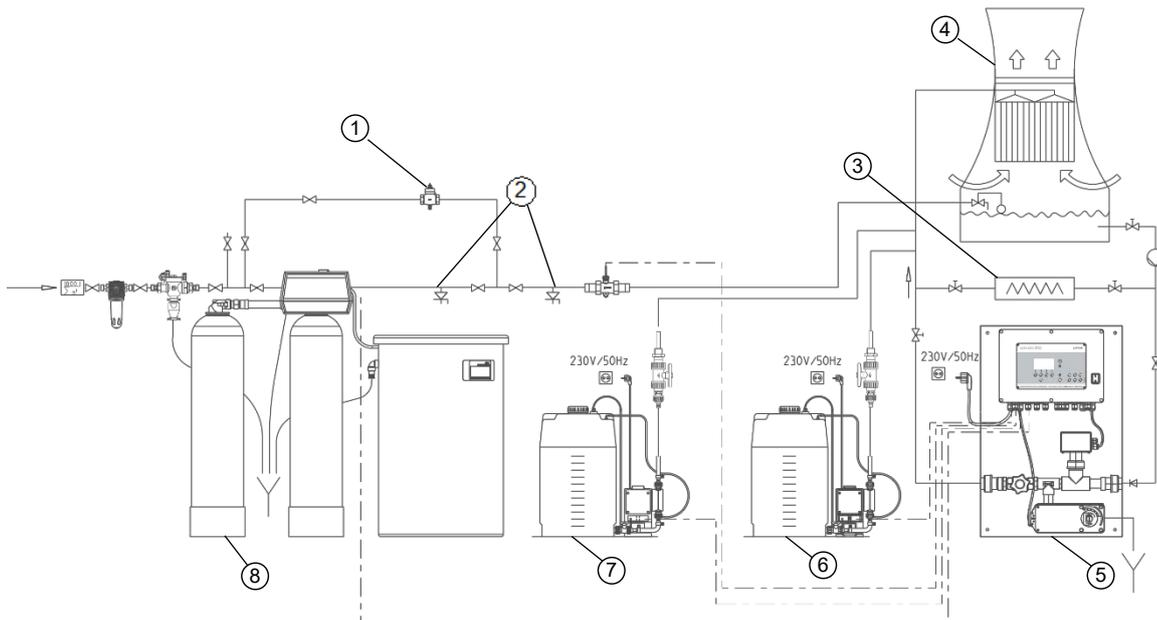

Fig. D-2: Mounting and installation instructions for GENO-KWA-60i
1. Connect the circulation pipes according to the corresponding installation example (fig. D-2) or according to the applicable planning documents and observe the flow direction while doing so.